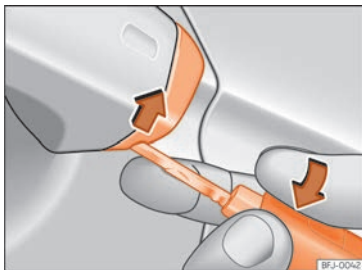

Fig. 94 Driver door handle: lever the cover off
- Insert the key shaft into the lower opening in the cover on the driver door handle »» Fig. 94 then remove the cover upwards.